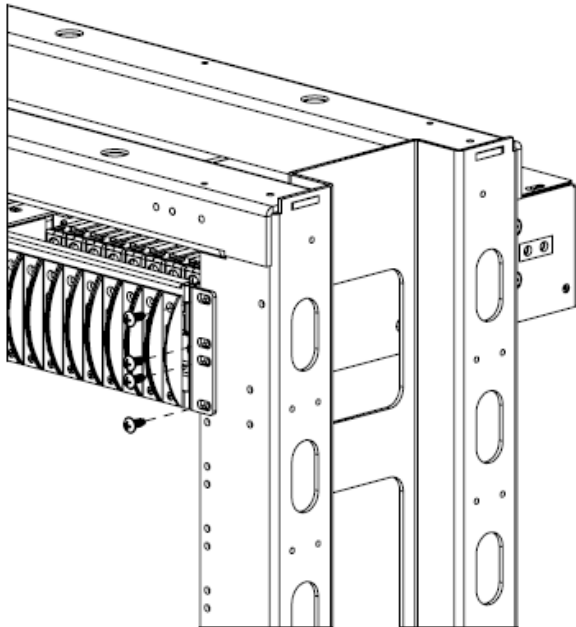
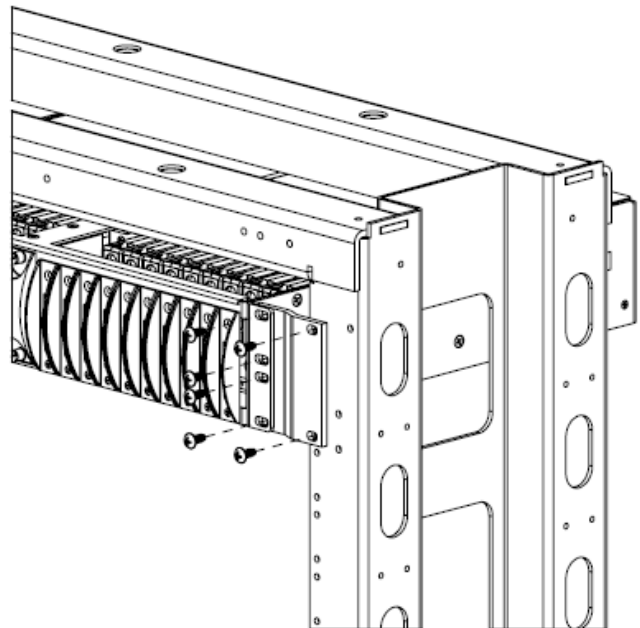

Fig. 2-1: 19" rack mounting
Fig. 2-2: 23" rack mounting with optional adapter bracket
4. Locate an unused rack position and mount the load center using four fasteners per side for 19", as shown in Fig. 2-1, and six fasteners for 23", as shown in Fig. 2-2.